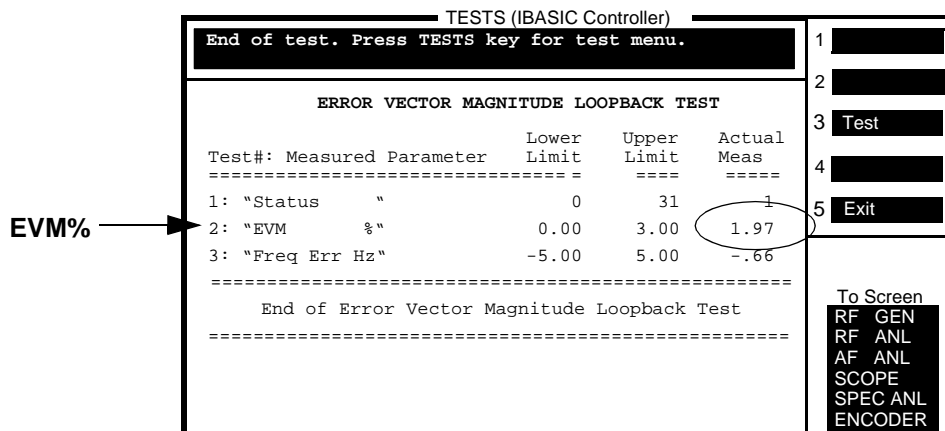

Figure 56
9. After a few seconds, the ERROR VECTOR MAGNITUDE LOOPBACK TEST results appear, see figure 56.